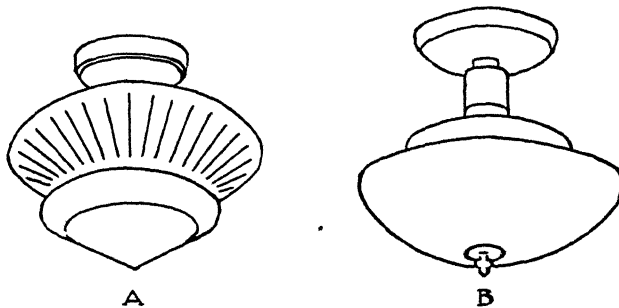

Fig. 9
which gives general light for an average-sized room is illustrated at (A) Fig. 9. Another style is a glass diffusing bowl (B) with three 40-watt bulbs,